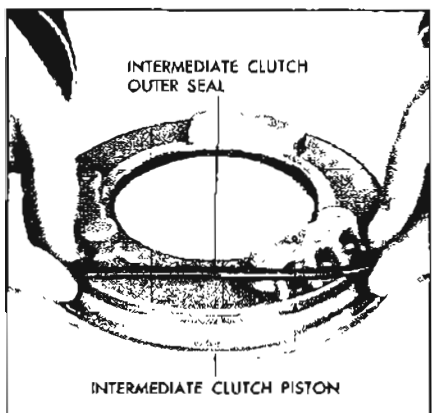

Figure 5-651A
6. Remove the outer piston seal. See Figure 5-651A.